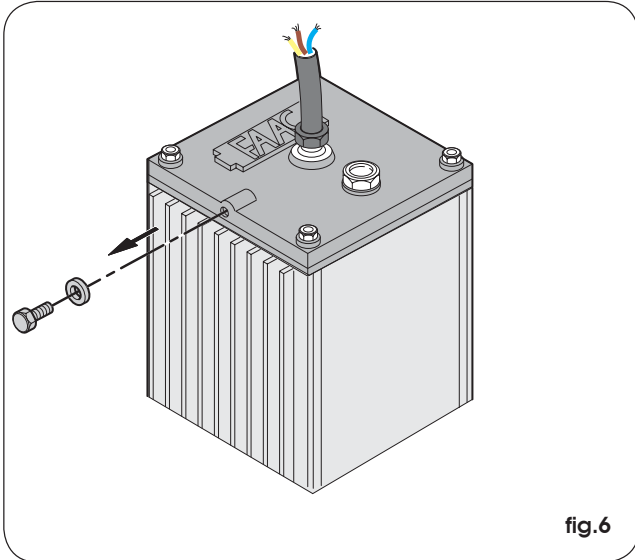

fig.6
- 2) Remove and store the breather screw as shown in fig.6